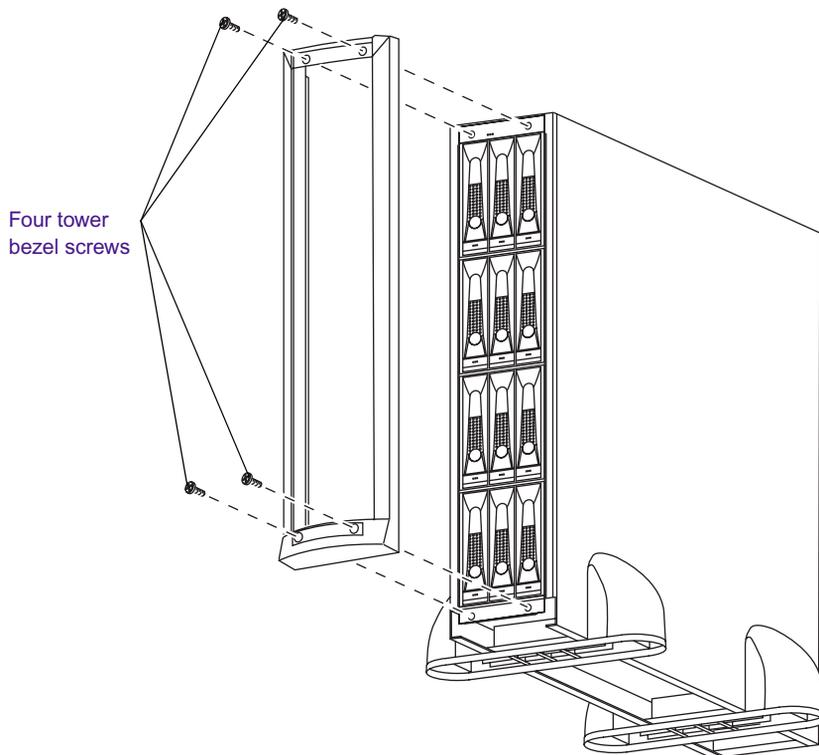

Figure 52 Replacing the Tower Bezel and Securing the MediaDock Ultra320
4. From the front of the tower, position the MediaDock Ultra320 into the tower so the that status LEDs are on the top (see Figure 52). Slide the MediaDock Ultra320 into the tower shell until it is flush against the front of the enclosure.